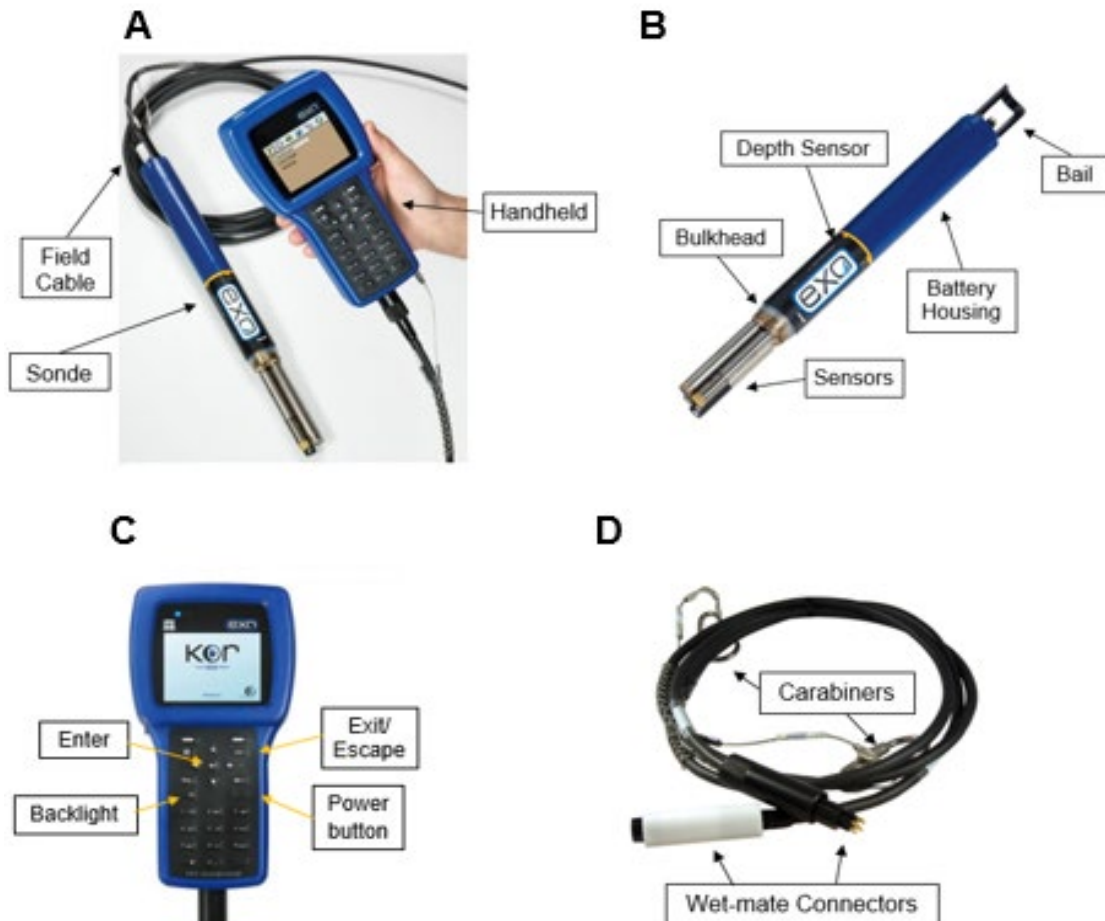

Figure 1. EXO1 sonde system. A, classic handheld, sonde, and field cable connected; B, EXO1 sonde; C, classic handheld; D, field cable
- 2.1 EXO1 sonde (Figures 1 and 2)